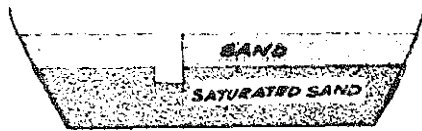

FIGURE 1
the water "disappear" into the sand (see Figure 1). However, if we looked through the side of the bowl, we would see water in the sand, but below the top of the sand. The sand containing the water is said to be saturated. The top of the saturated sand is called the *water table*; it is the level of the water in the sand.
If we inserted a straw into the saturated sand in the bowl in Figure 1 and sucked on the straw, we would obtain some water (initially, we would get some sand too). If we sucked long enough, the water table or water level would drop toward the bottom of the bowl. This is exactly what happens when water is pumped from a well drilled below the water table.
1. Method A (see Figure 1), from an American Friends Service Committee (AFSC) team in Rasulia, Madhya Pradesh, India.